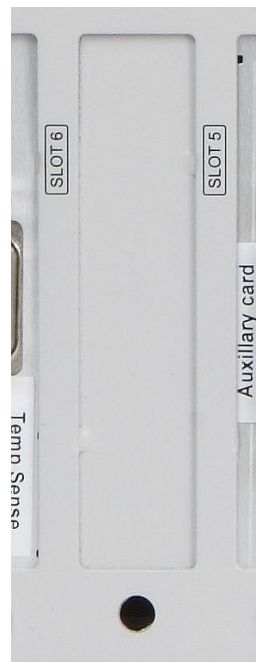

Figure 20 MercuryiPS daughter board blanking plate
- 3 Knock out the blanking plate (Figure 20) in the location where the board is to be fitted. The blanking plates are held in place by 2 metal tongues (4 metal tongues on early iPSs).